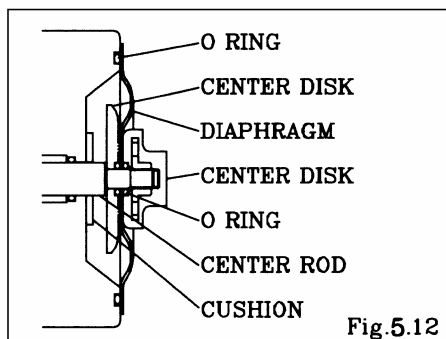

Fig.5.12
- Install the diaphragm with the convex side outside. [Fig.5.12]